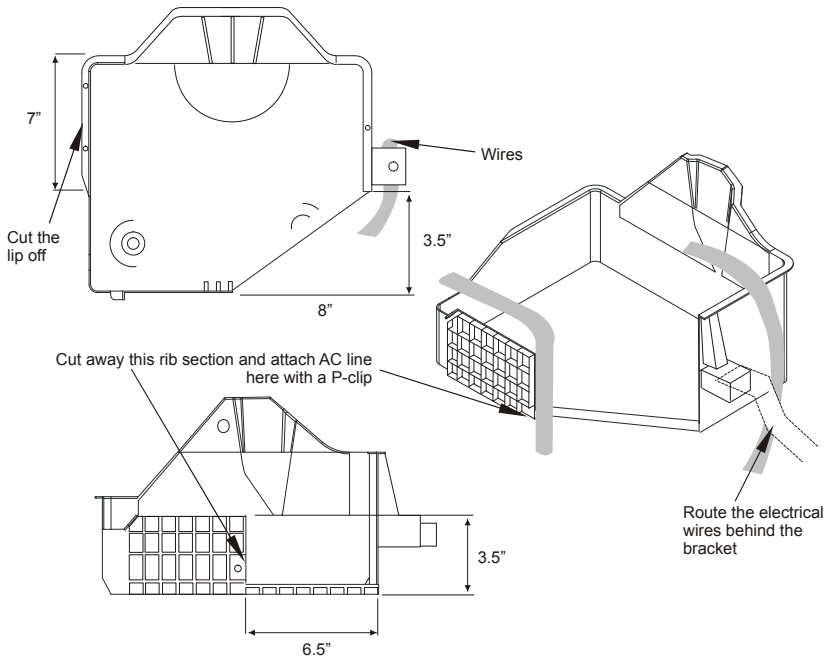

Figure 2.4
- Modify the battery box to provide clearance for the compressor (Figure 2.4).